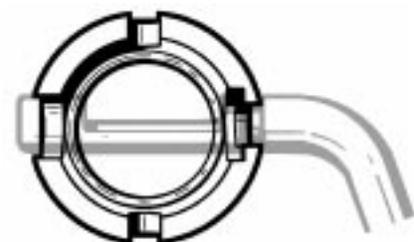

Fig. 18b - Retaining Sleeve/ Lever Engagement
- b. Closely examine the lever to see that it contains a small groove beside the notch. Position this groove above the railed channel of the retaining sleeve, and lower the lever into place as shown in Fig. 18b. This will illustrate how the railed channel of the sleeve rides back and forth over the grooved feature of the lever as the adjustment knob is turned in and out.